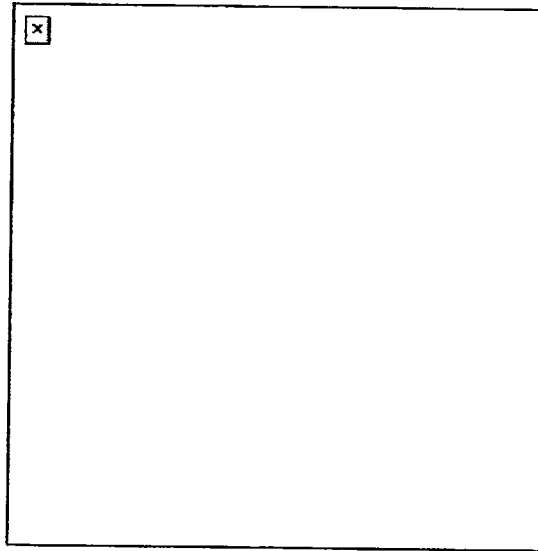

Figure 11. Antitank weapons placement.
- a. The antitank weapons (tube-launched, optically tracked, wire-guided, heavy antitank missile system [TOW], Dragon, 90-millimeter [mm], light antitank weapon [LAW]) should be positioned on upper stories for long-range coverage (Figure 11).